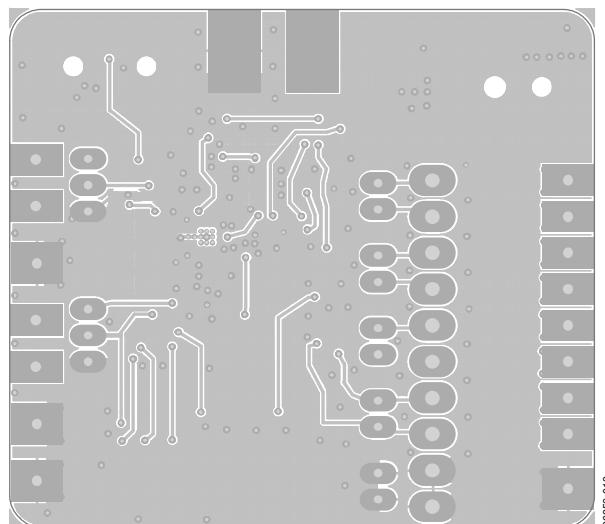
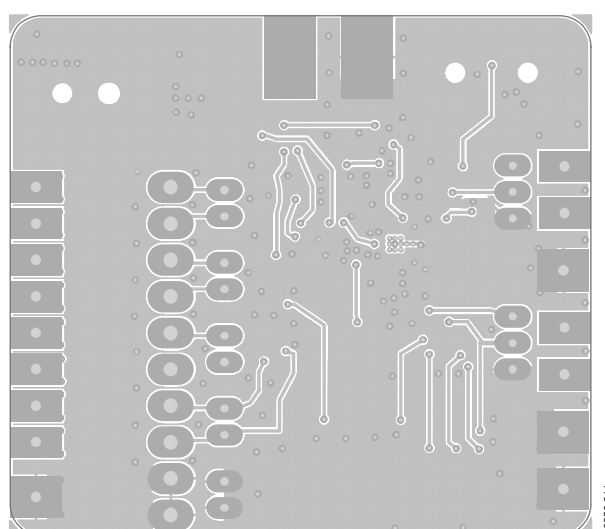

Figure 10. Bottom Layers of the Evaluation Board
Figure 11. Mirrored Bottom Layers of the Evaluation Board
11. Use a solid polygon plane on the other side of the PCB for the area of the vias that are placed on the thermal pad of the chip. See Figure 10 or Figure 11. This polygon serves as both the EMI shielding ground plane and the heat sink for the SSM2306.